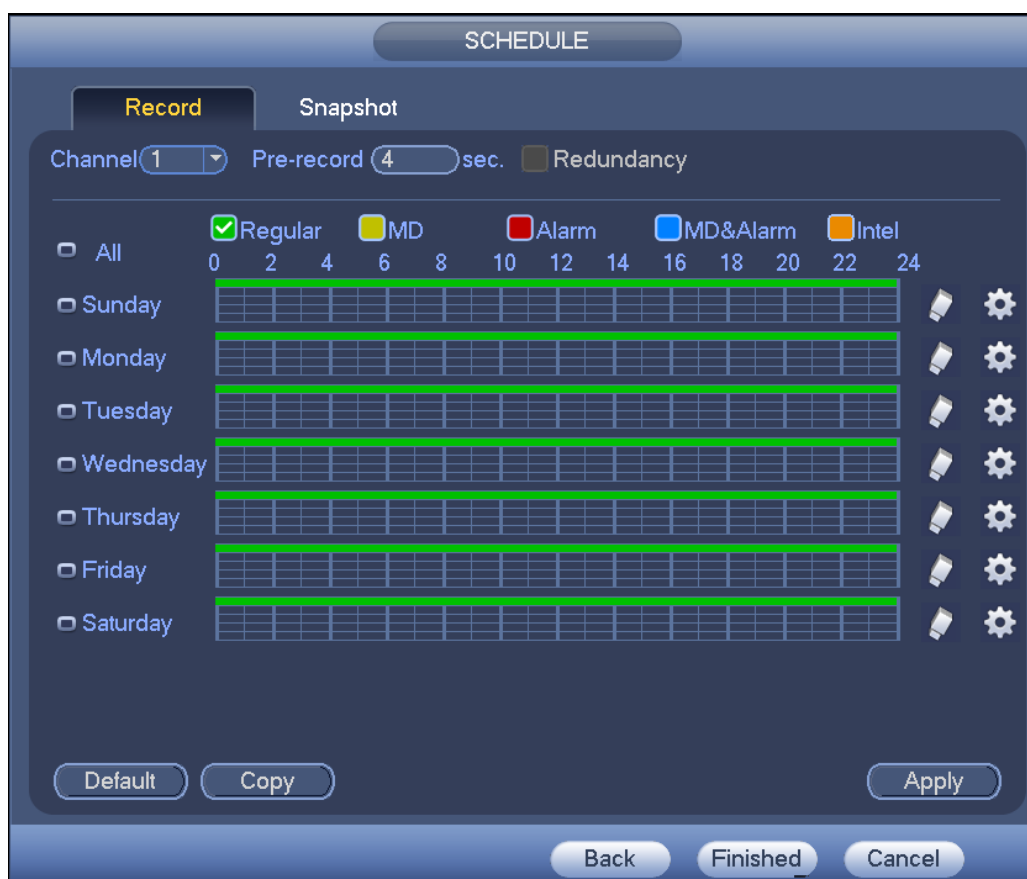

Figure 4-42
Step 1 Click Next button, enter Schedule interface. See Figure 4-42.